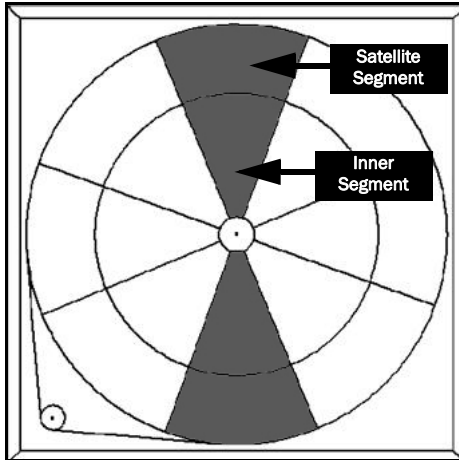

Figure 23 Remove or install opposing inner and satellite segments to minimize wheel imbalance.
An uneven number of segments in the wheel will cause the wheel to accelerate in rotation. Minimize wheel imbalance and unwanted rotation during service by installing or removing opposing segments for even weight distribution, Figure 23. Failure to maintain control of the wheel rotation while removing or installing all segments could cause severe injury to fingers or hands. Always close and secure segment retaining latches before rotating wheel.
- Rotate wheel 180-degrees to remove opposing satellite and inner segment to restore balance, Figure 23.
- Repeat previous six steps to install inner and satellite segment sets, ensuring balance throughout the procedure, Figure 23.